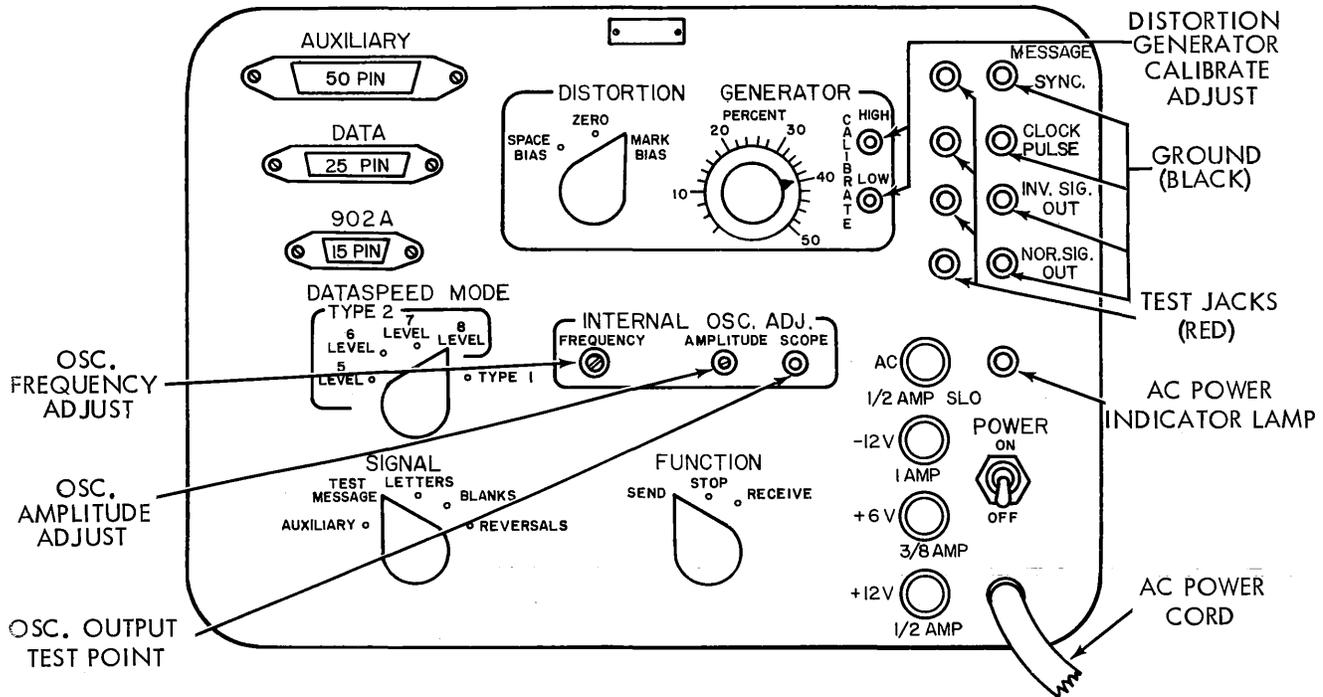

Figure 1 - 905A/905B Data Test Set - Front Panel
1.11 Controls (See Figure 1)
1.12 Test Jacks (See Figure 1)
1.13 Indicator (See Figure 1). An indicator lamp lights when the POWER switch is placed in the ON position.
1.14 Connectors (See Figure 1)
1.17 Fuses (See Figure 1)